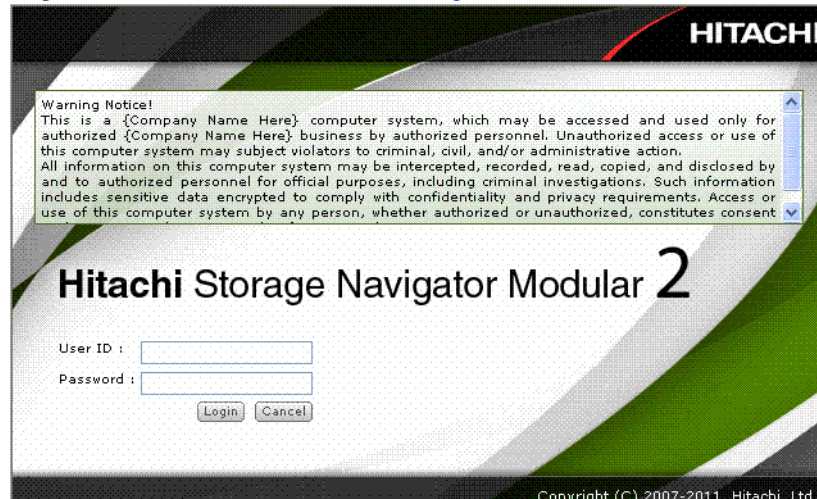

Figure 5-16: Set Message text in the Warning Banner view
6. Review the preview contents and click **Ok**. A set message displays in the Warning Banner view as shown in Figure 5-16.